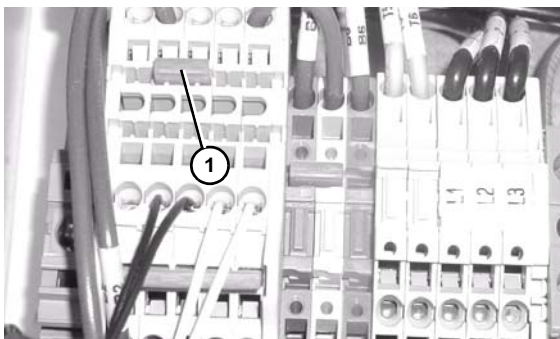

Figure 16
2. Move the internal jumper (Figure 16, item 1) to the left to bypass the device in the blue port. Move the jumper to the right to bypass the device in the green port.